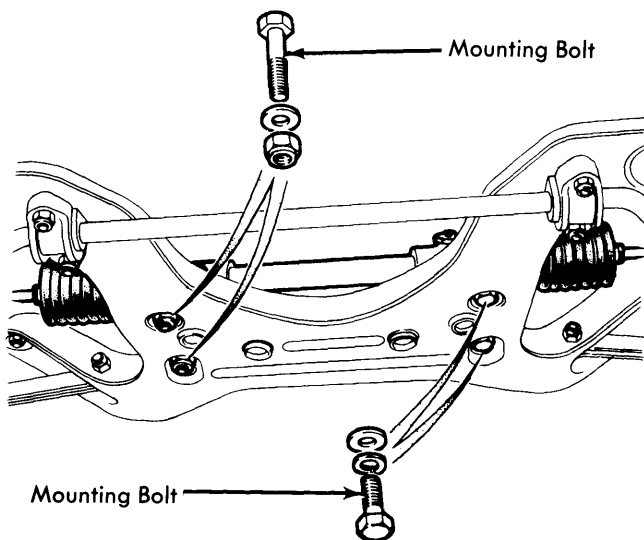

Fig. 1 Installed View of TR7 Rack Assembly
2) Carefully slide rack assembly into position but DO NOT disturb rack shaft. On TR7 models only, secure rack to chassis with mounting hardware, refit tie rod ends and tighten pinion coupling pinchbolt (Fig. 1).